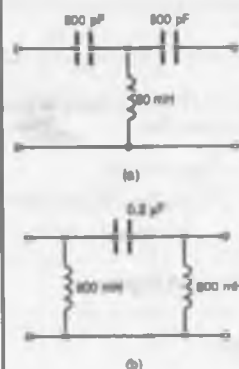

Figure 17.20
- Determine the cut-off frequency and the nominal impedance of each of the high-pass filter sections shown in Figure 17.20.